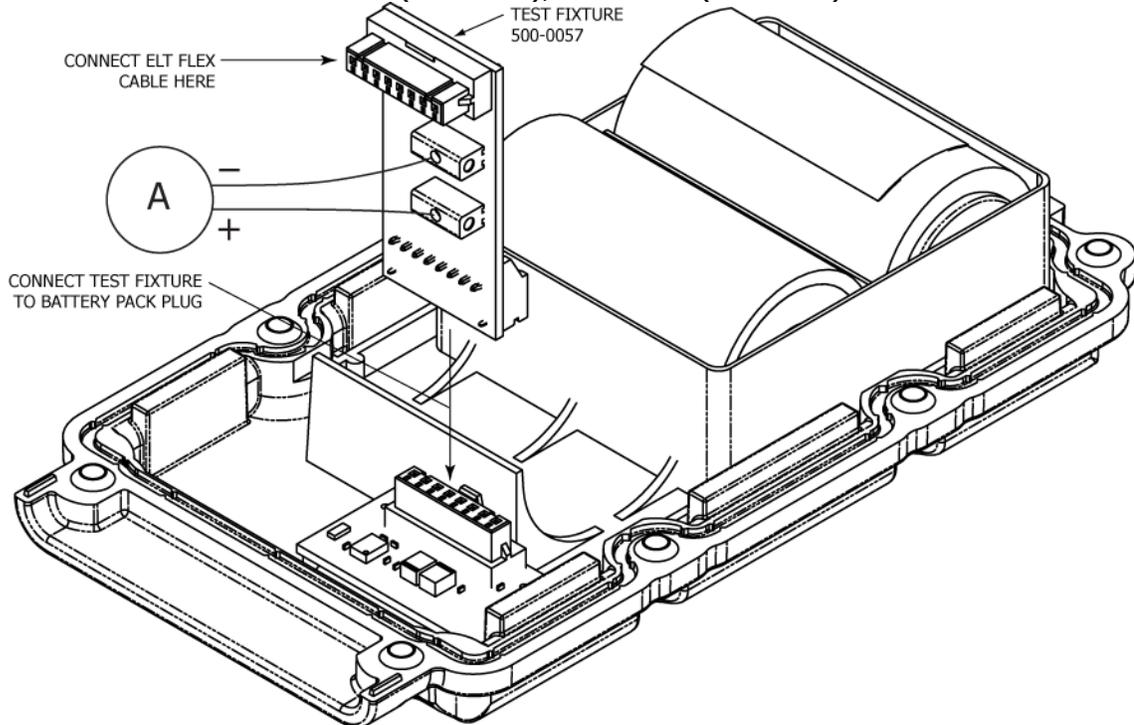

Figure 9 Current Draw Test Setup
- 3) Install test fixture 500-0057 in the power circuit. See Figure 9 Current Draw Test Setup.